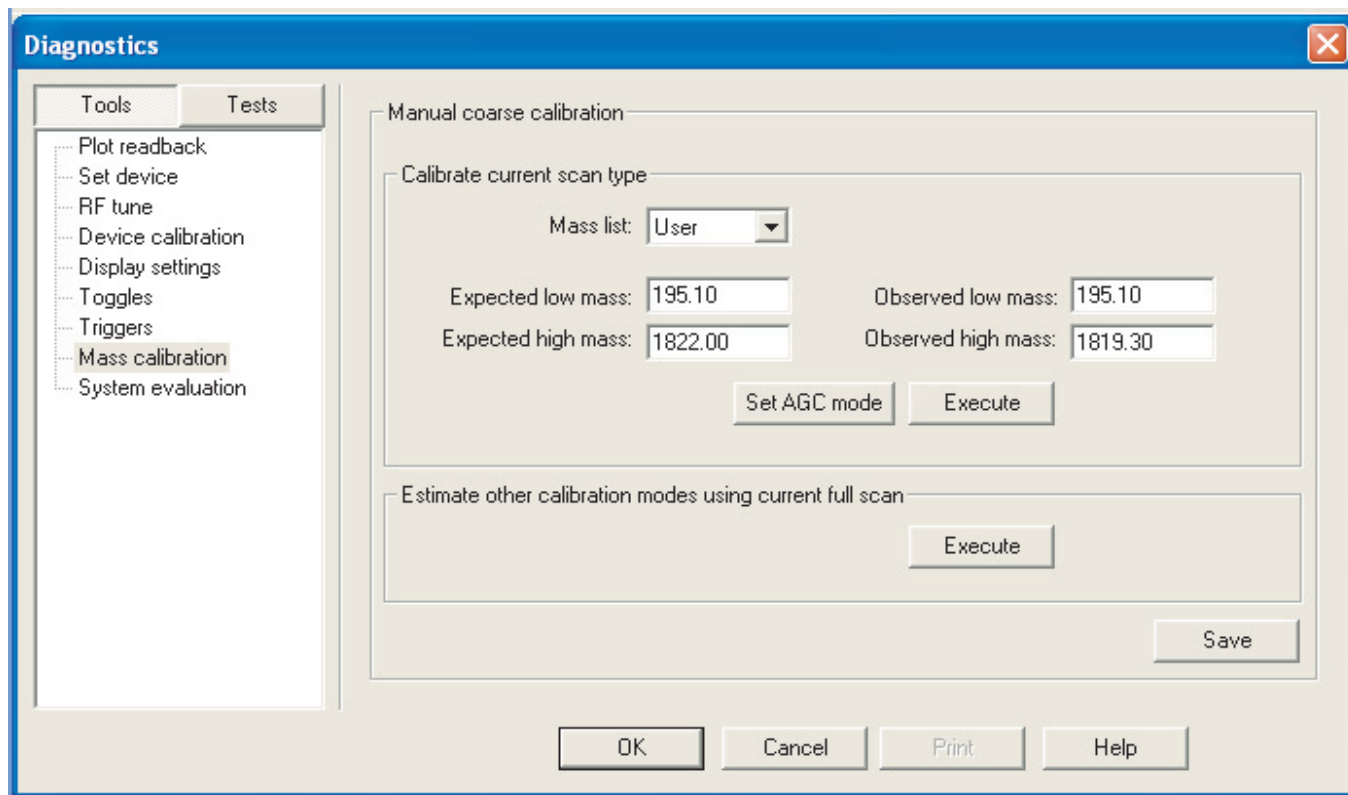

Figure 68. Tune Plus Diagnostics dialog box, normal mass range data
2. In the Tune Plus window, open the Diagnostics dialog box (**Diagnostics > Diagnostics**) shown in Figure 68.
3. Click **Tools** in the upper left of the window. Click on Mass Calibration in the pane below the **Tools** button as shown in Figure 68.
1. Two-point mass calibration is available for all high mass range modes accessed through the Estimate Other Calibration Modes Using Current Full Scan group box (in the Diagnostics dialog box, Figure 68).